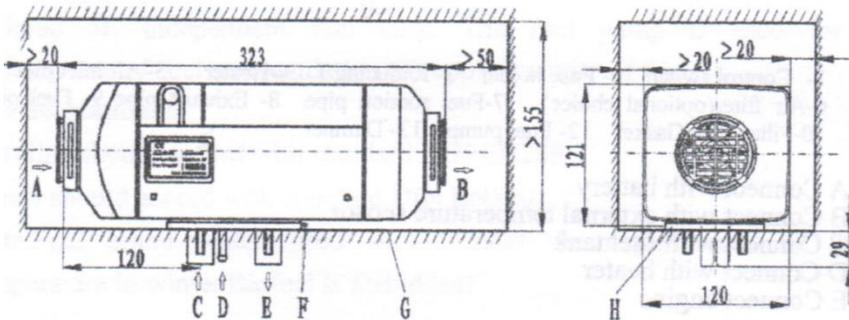

Fig. 8
Fig 8 heater measurements
2. heater unit, allowing for clearances around the unit as specified See fig 8 & 11, mounted at a height to ensure fuel pump & fuel line flows upward to the unit.
4. Fit special gasket (as shown in Fig. 8 part No 11)